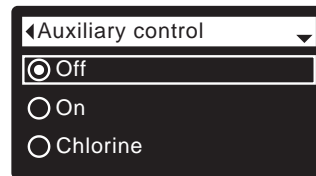

FIG. 88
7. Press the SELECT (O) button to display the Auxiliary control menu (See Figure 88).
8. If the desired option already has a black dot next to it (See Figure 88), go to Step 9. Otherwise, press the DOWN (▼) or UP (▲) buttons to scroll to the desired option, then press SELECT (O) to choose it.